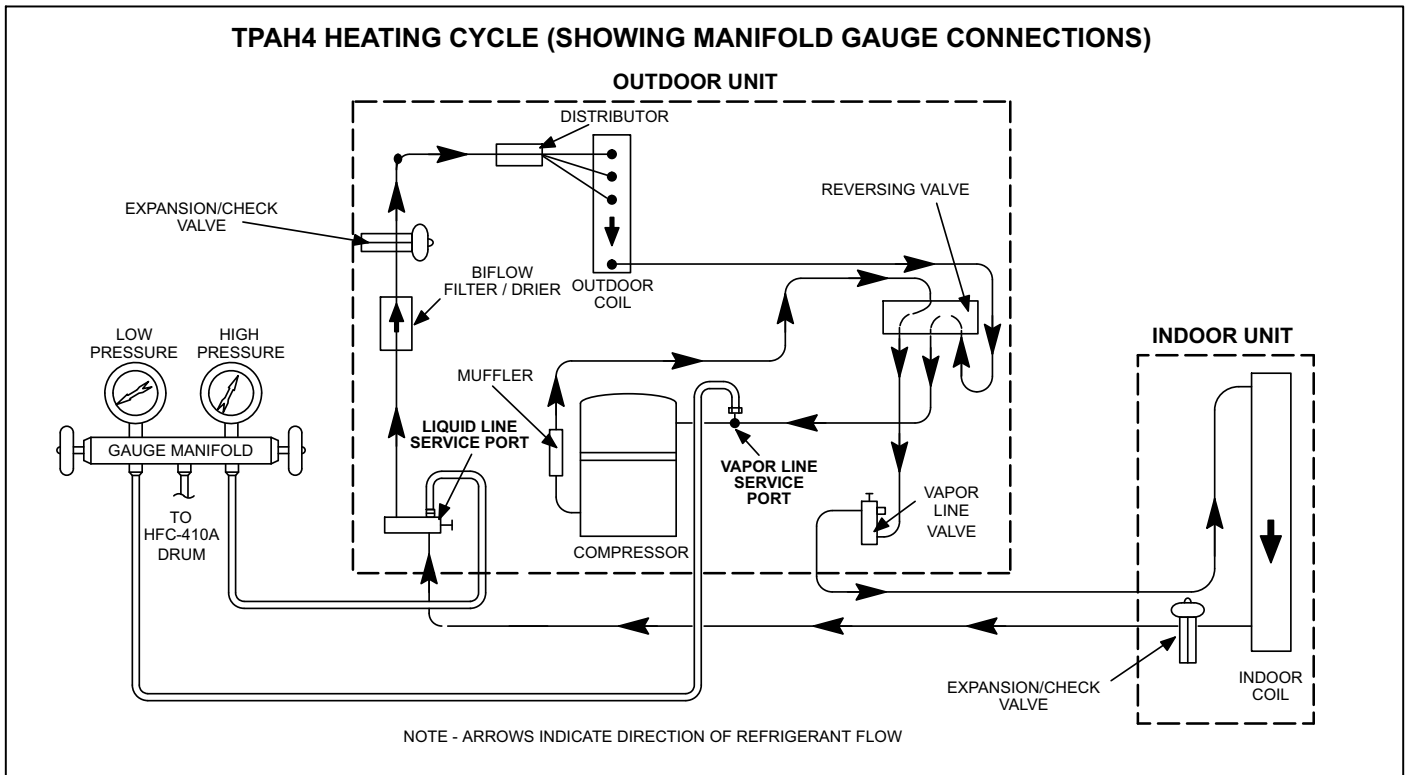

FIGURE 14
2. Connect the manifold gauge set to the unit's service ports as illustrated in figure 14.